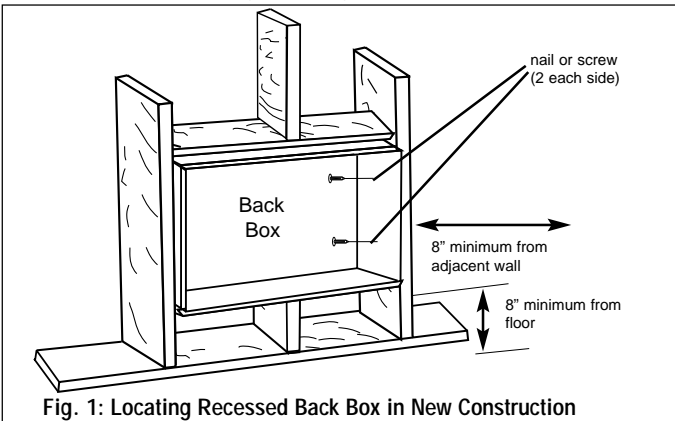

Fig. 1: Locating Recessed Back Box in New Construction
1. Mounting Back Box (See Figure 1).
- c. Secure the back box in position with wood screws or nails as shown in Figure 1.